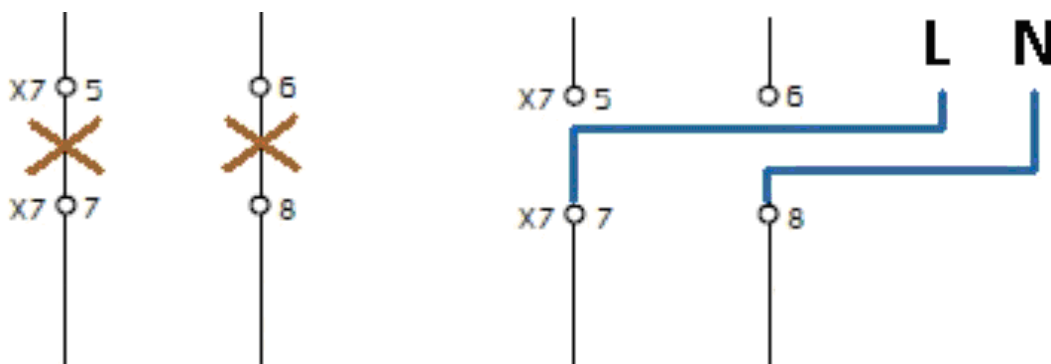

Figure 25: Connecting an external power supply source to terminal board X7
7. Connect the power supply cables to terminals 6 and 8 (Figure 25).